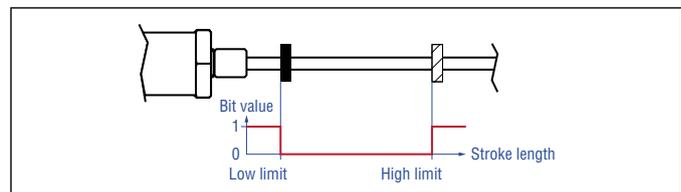

Fig. 107: Switching points for R-Series V PROFINET with linear profile
- **Sensor status 2:** This module indicates when a high limit is exceeded or a low limit is not reached. The switching points mark the beginning and the end of a work area (Fig. 107). According to Fig. 108, the status of the switching points is displayed via bits 0 and 1 of this module.